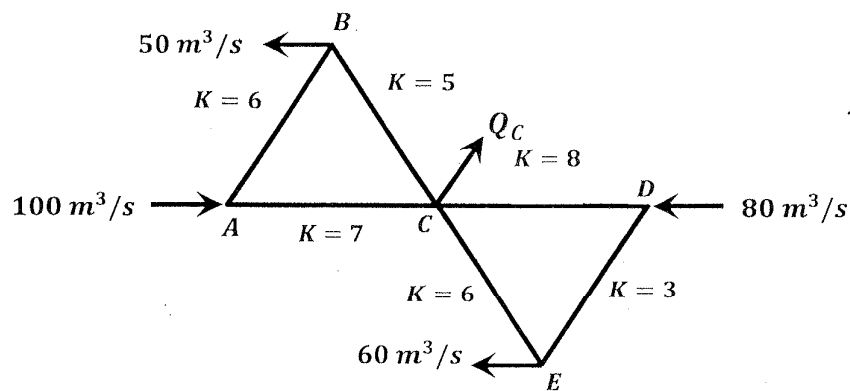

Figure Q2
- [Q2] **Figure Q2** shows a schematic diagram of a water distribution system in a factory. Water enters the network at points A and D, while water is withdrawn at points B, C, and E. Determine the flow rate in each pipe using the **quantity balancing method**. Perform calculations until the error is less than 0.05 ($\Delta Q < 0.05$).